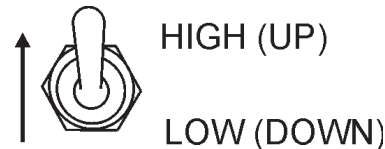

Figure 67. Engine Speed Switch (High)
25. Once the engine is warm and the engine is running properly, set the engine speed switch to “**HIGH**” (Figure 67).